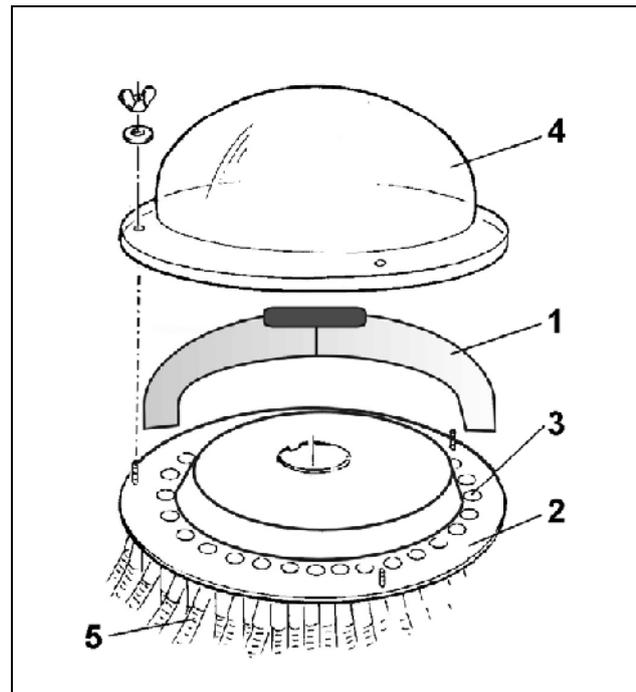
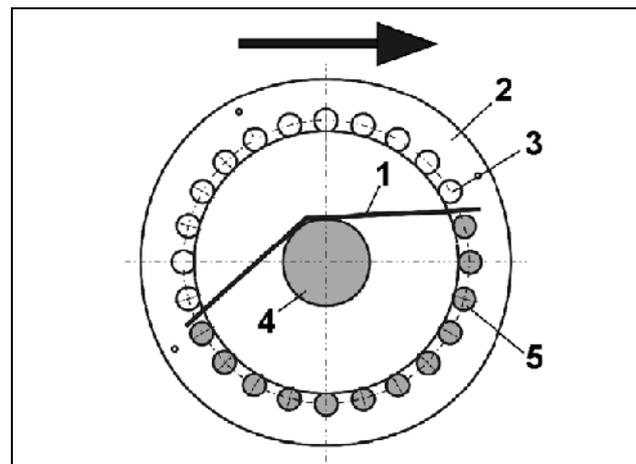

Fig. 68
Fig. 69
With the insert (Fig. 68/1) for the half-side shutting of the outlets in the distributor head the seed flow is guided to half of the outlets (Fig. 68/3) and thus to half of the coulters. This way, at random, the seed delivery to the coulters can be interrupted on the right or left hand implement side and you can sow with the other implement half.
- Remove distributor hood (Fig. 68/4).
- set the insert (Fig. 68/1 or Fig. 69/1) on to the distributor plate (Fig. 68/2 or Fig. 69/2) that the desired outlets will be shut off by the insert.
- In top view (see Fig. 69)
- shut off, not hatched outlets (Fig. 69/3) are on the side behind the corrugated tube (Fig. 69/4)
- open, hatched outlets (Fig. 69/5) are on the side in front of the corrugated tube (Fig. 69/4).
- In any case check the routing of the seed guide tubes (Fig. 68/5) to ensure that the insert shuts off the seed flow to the correct coulters.
- Mark the position of the insert with a suited pencil on the distributor plate (Fig. 69/2) so that you may quickly find the correct position of the insert on the distributor plate later on.
- Fix the distributor hood (Fig. 68/4) on the distributor head. When fixing the distributor hood the insert (Fig. 68/1) is clamped.